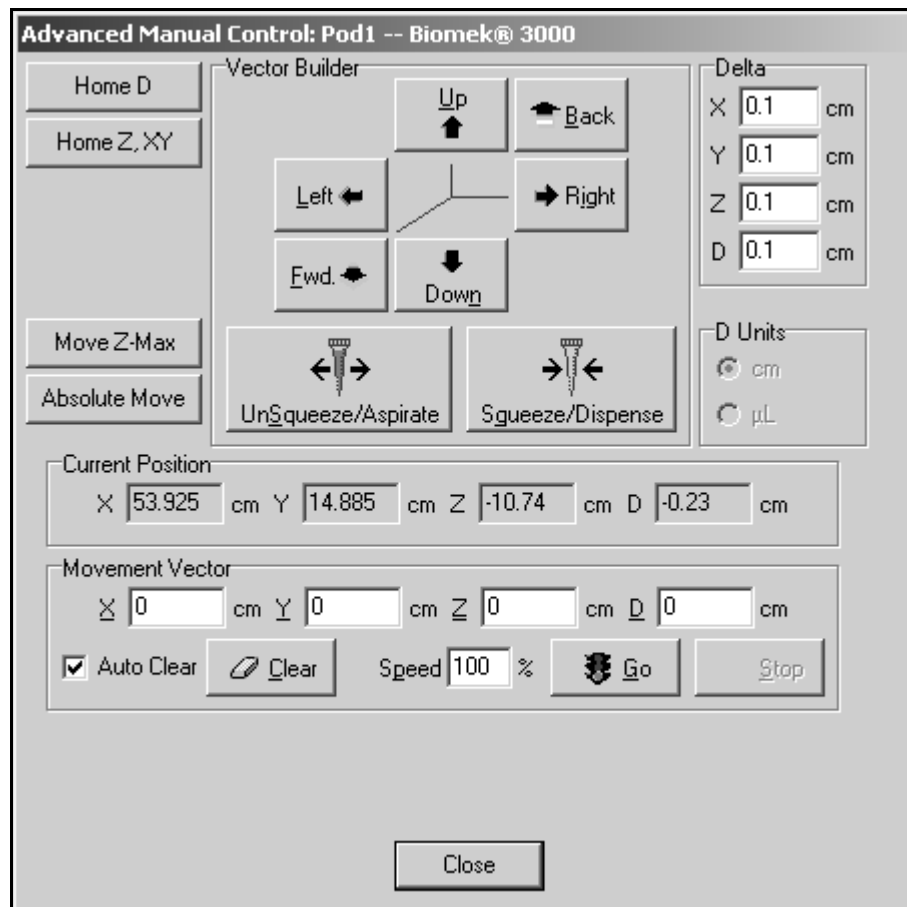

Figure 3-20. Advanced Manual Control for the Biomek 3000 head assembly
2. Select **Advanced Controls** and highlight Pod1. Advanced Manual Control: Pod1 appears (Figure 3-20).